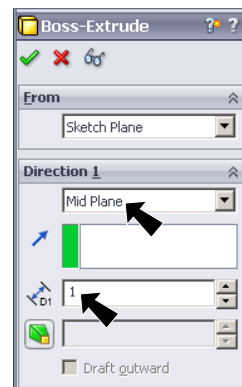

Fig. 3
Step 7. Click **Zoom to Fit**  (F) on the View toolbar.
Step 10. In the Property Manager set, under Direction 1, **Fig. 3**